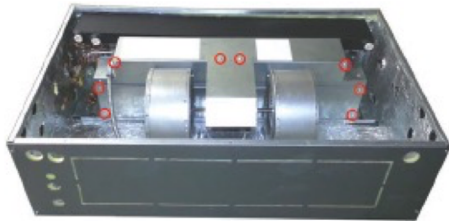

FIGURE 6.1
6.1.1. Using 1/4" nut driver, remove the (8) hex screws as shown in the picture above (Fig 6.1). Remove the control panel cover, disconnect the fan motor wiring, and remove the blower assembly.